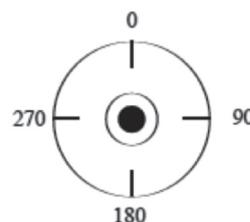

Figure B-4
**Random orbital sanders lose their effectiveness if too much pressure is applied and the pad stops spinning. To assure that the pad is spinning, mark each sanding pad with four black lines at 0, 90, 180, and 270 degrees (See Figure B-4). These marks will point out if even pressure is being applied during sanding. If adequate pressure is applied during sanding, the pad markings will spin freely with a relative blur or “strobe effect”. If too much pressure is applied, the pad will stop spinning shown by the lines slowing. Too much pressure prevents the pad and paper from performing as designed.**